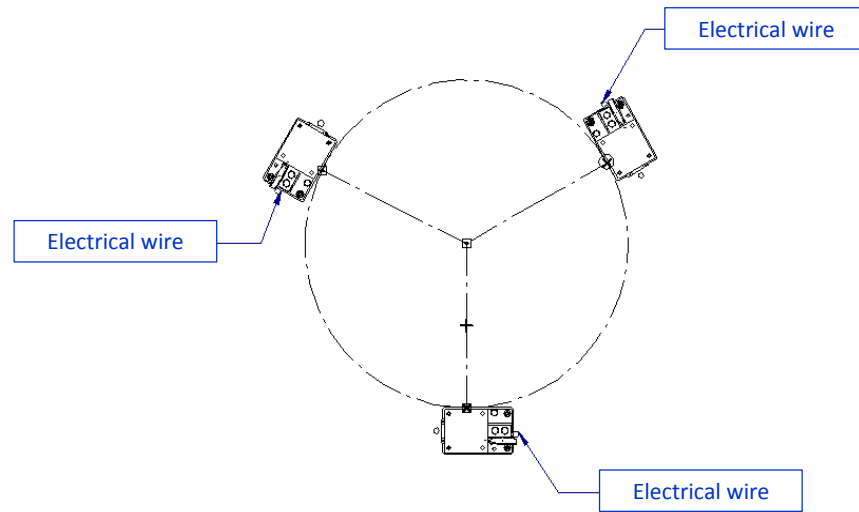

Fig 5. Connection and direction of weigh modules
1. Raise the vessel and place the weigh modules in the vessel's legs as shown in figure 5.
Weigh modules should be connected according to figure 5, **taking care of the cells and connection wire direction**. A wrong connection of load cells can lead to erroneous weight readings.